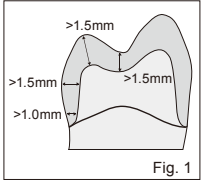

Fig. 1
- Prepare margins with deep chamfer or rounded shoulder. (Figure 1)